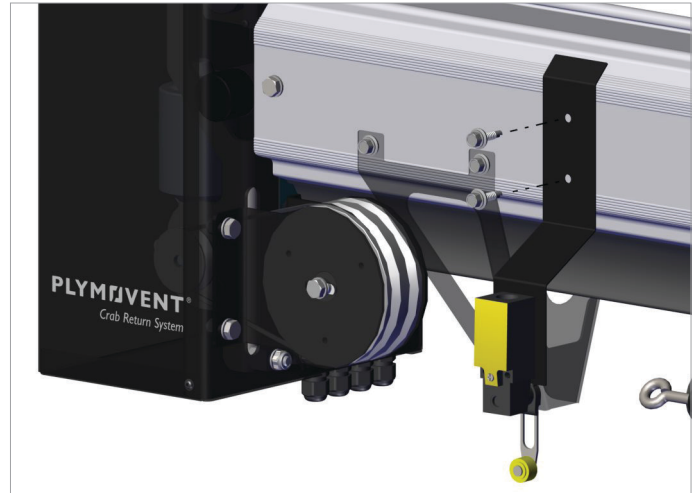

Fig. 4.3.9 Mounting the limit switch bracket
- Mount the limit switch bracket at approx. 25 mm (1 in.) next to the stop bracket using self-tapping screws 6,3 x 25. Please note that the rubber bumper on the crab should almost hit the stop bracket when the limit switch is activated. Refer to fig. 4.3.9.